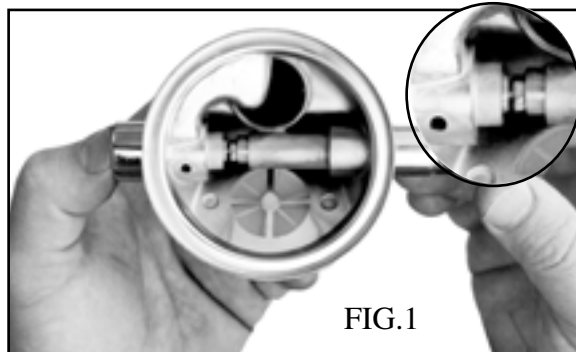
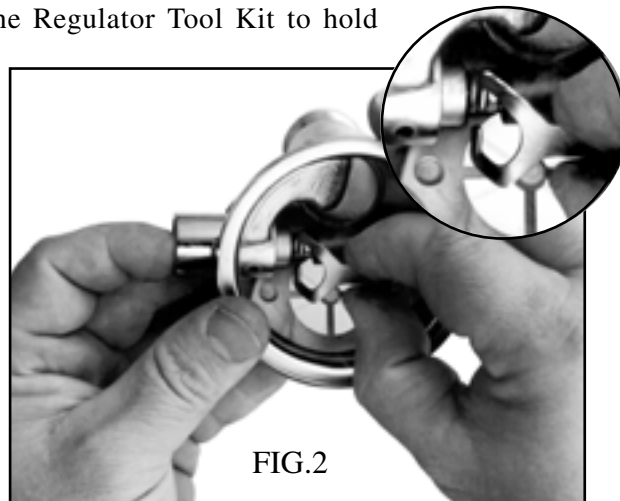

FIG.1
FIG.2
it through the adjustment shaft tube. With the inlet valve depressed, run the nut onto the inlet valve stem about 2 turns, leaving enough slack to allow installation of the lever (18) (FIG.1) With the inlet valve depressed the washer (19) and spacer (17) should be loose on the inlet valve stem.
5. The lever (18) is installed next. The lever legs MUST be parallel to each other. Check them with a straight edge and true if necessary by carefully bending with pliers. Now, with the inlet valve depressed insert the lever legs
between the washer (19) and spacer (17) (FIG.2).